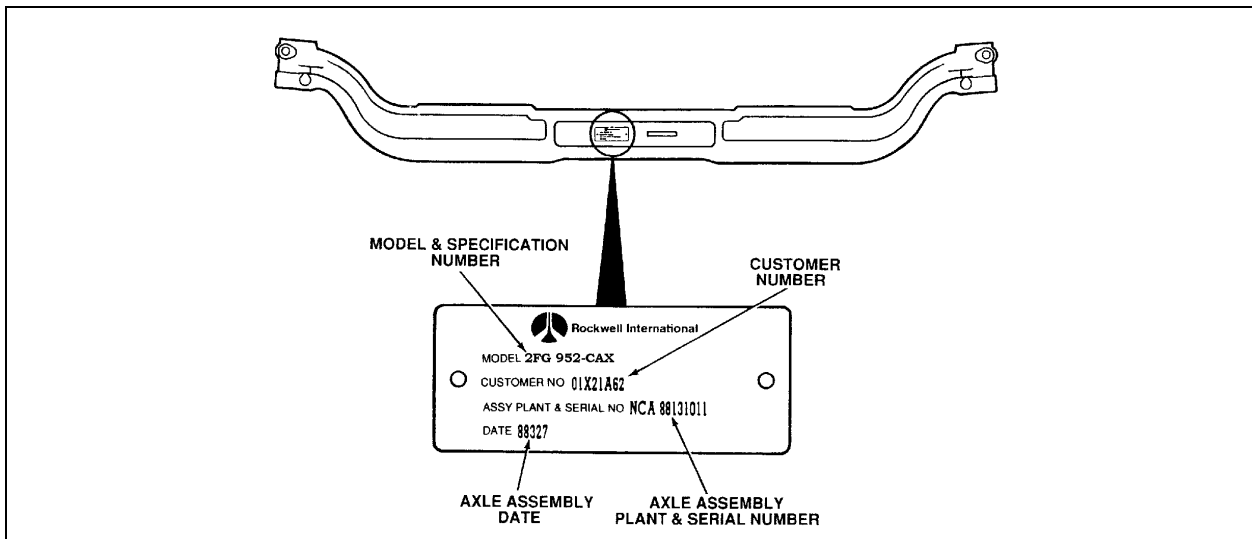

FIGURE 1: FRONT AXLE DATA PLATE
1. The conversion kit is only suitable for Rockwell 2FG952-CAX axle. Check the type of axle on your vehicle before ordering parts (figure 1).